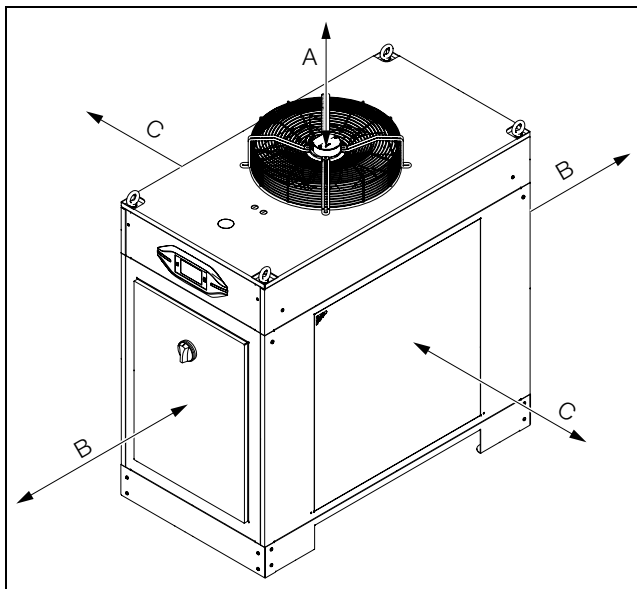

Fig. 16: Minimum distances
- The opening on top of the chiller must be freely accessible to enable the unhindered expulsion of hot air (see fig. 16). To allow connection of the supply lines and facilitate maintenance and repair work, the minimum distances shown under fig. 16 should be adhered to.
- In order to avoid an "air short-circuit" (mixing of air intake and waste air) and ensure full cooling performance, the minimum distances shown under fig. 16 should likewise be adhered to.